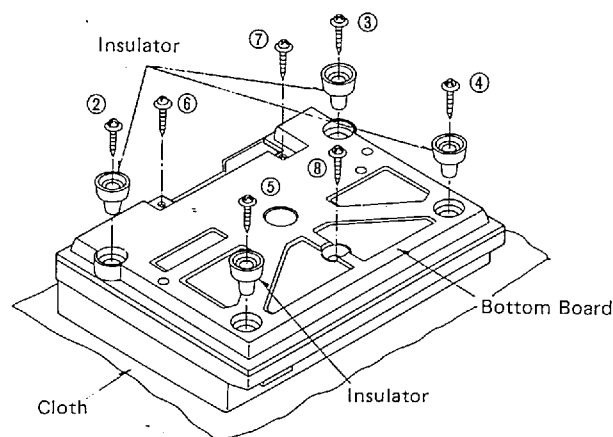

Fig. 2
Remove the 7 setscrews (Fig. 2: ② ~ ⑧) of the bottom board.